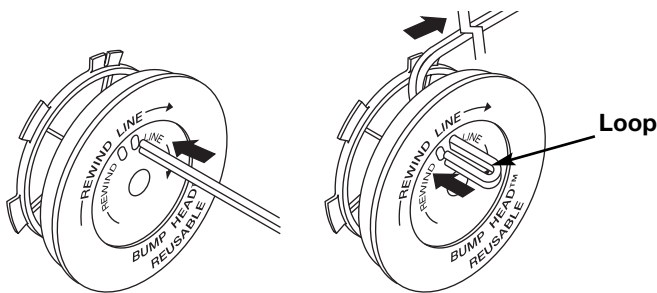

Fig. 21
- Take approximately 10 feet (3 m) of new trimming line. Insert one end of the line through one of the two holes in the inner reel (Fig. 21). Pull the line through the inner reel until only about 4 inches is left out.
- Insert the end of the line into the open hole in the inner reel and pull the line tight to make the loop as small as possible (Fig. 21).